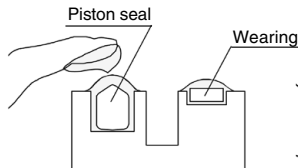
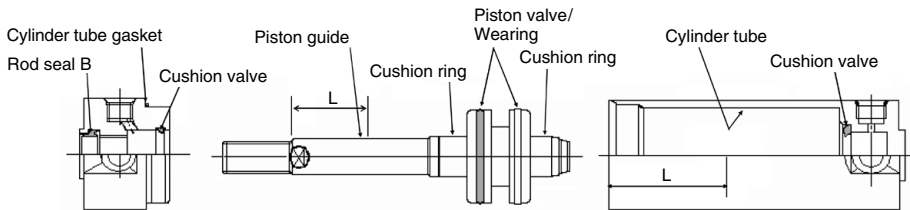

Fig. 7 Piston seal
Fig. 9 Grease application points  $L = \frac{\text{STROKE}}{2}$  or 100 mm and more
- ③⑤ Piston seal: Rub grease into the seal groove and outer circumference of the seal. (Fig. 7)
- ④② Cylinder tube gasket: Lightly apply grease.
- Cylinder component parts: Apply grease to each component parts of the cylinder in Figure 9.